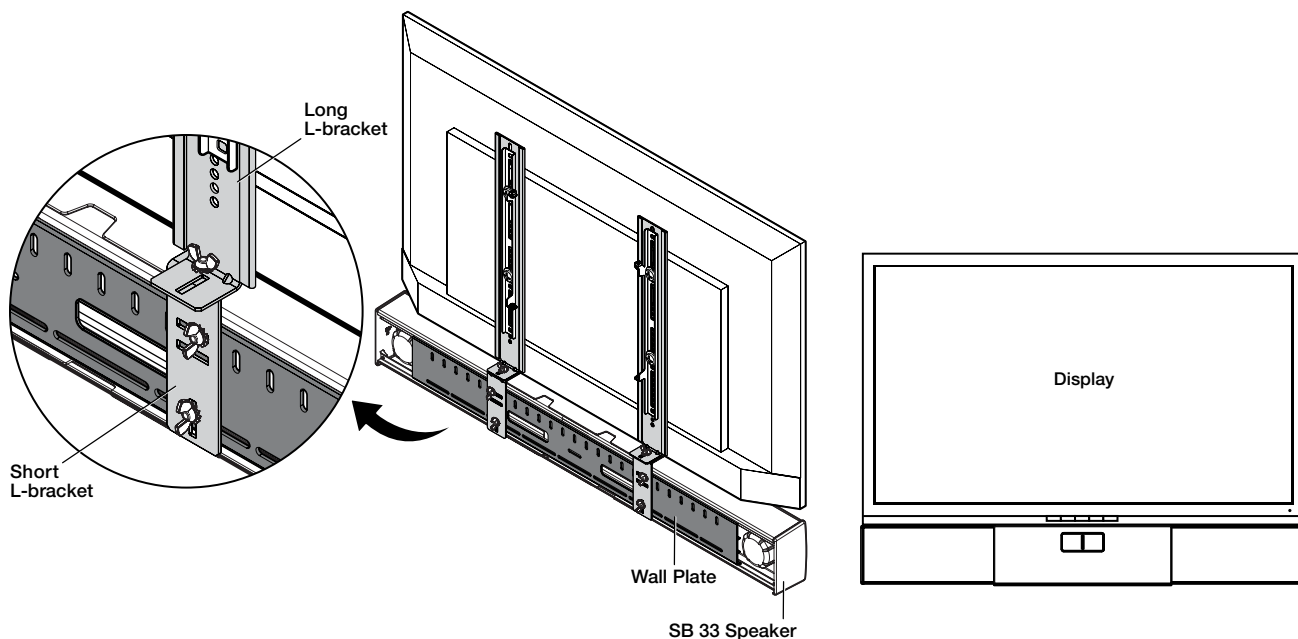

Figure 37. Installing the SB 33 A speaker wall plate
12. Install the SB 33 A speaker to the wall plate as shown in figure 37.